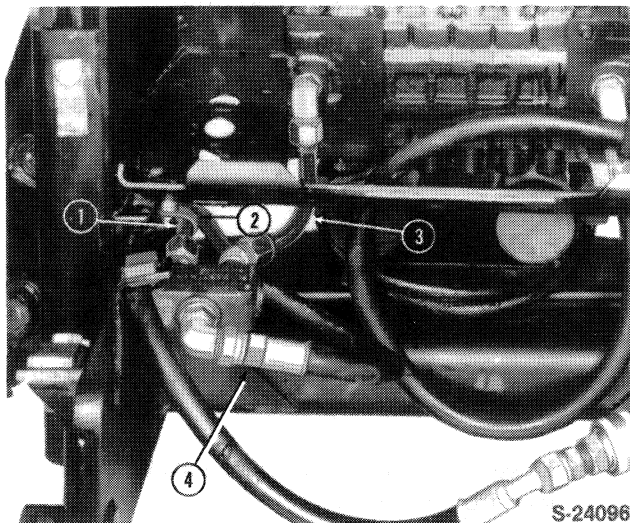

Figure 51
3. Disconnect the hoses, tubes and tube clamp from the flow divider valve adaptor fittings, Figure 51.